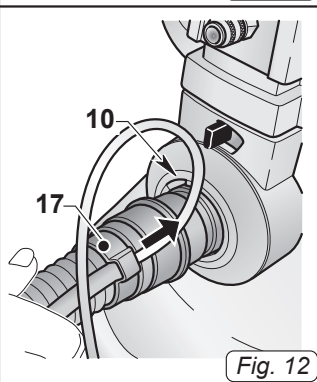

Fig. 12
- Insert, as far as possible, the sleeve (17 Fig. 12) of the suction hose into the nozzle (10 Fig. 12) on the drum.
- To release the sleeve (17 Fig. 12) turn the lever (11 Fig. 7) clockwise and then pull the sleeve outwards (17 Fig. 12).